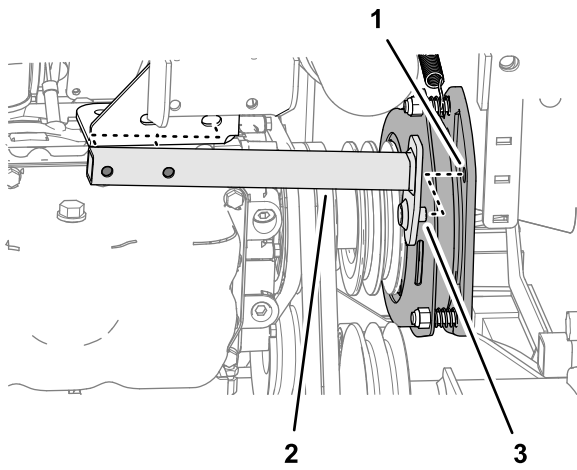

Figure 92
7. Move the anti-rotation tube rearward and remove it from the machine (Figure 92).
2. Align the pin of the anti-rotation tube with the hole in the PTO-clutch plate; refer to Figure 92 in Removing the PTO Belts (page 64).